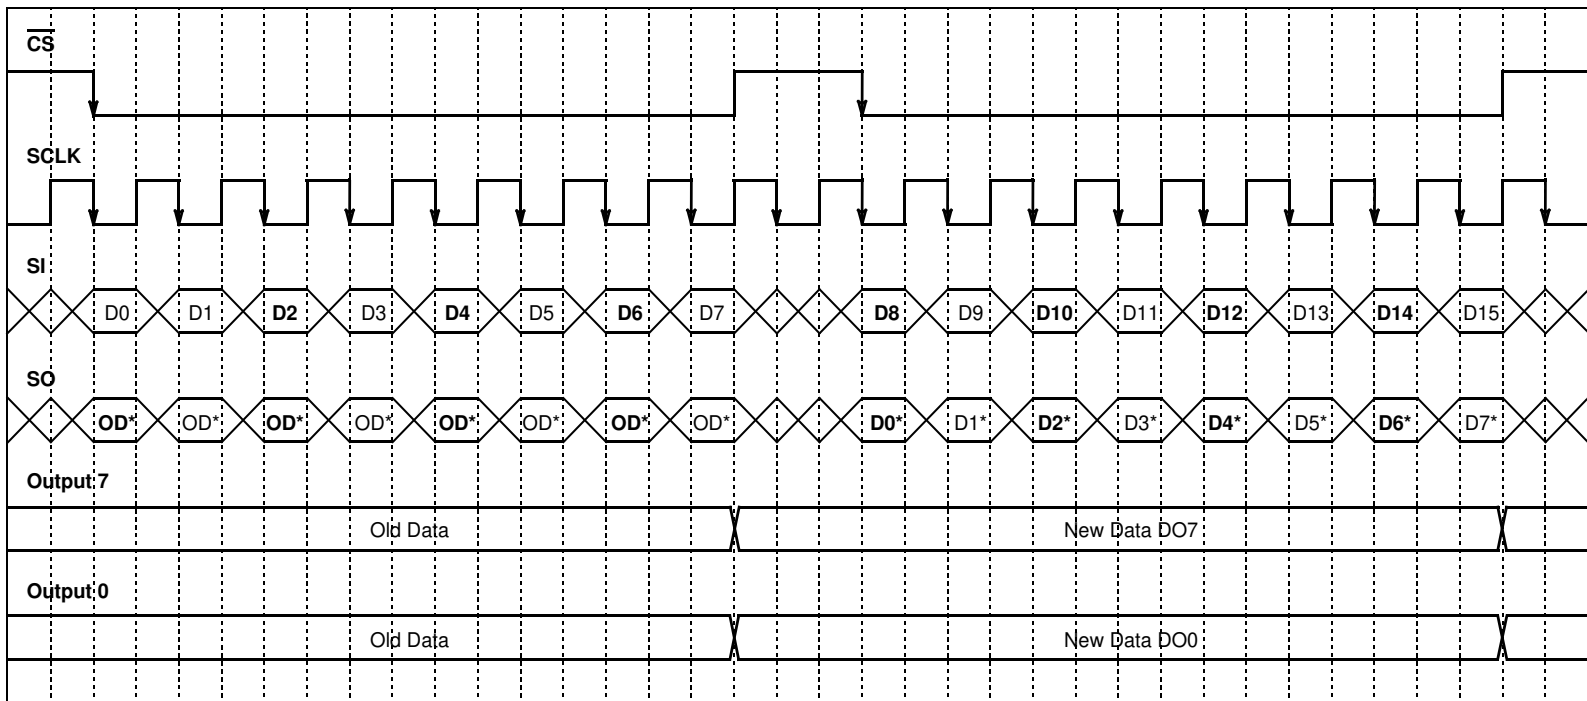

Figure 17. Data Transfer Timing
absolutely necessary, the SCLK pin be kept in a low logic state as long as the device is not accessed (\overline{CS} in logic high state). When \overline{CS} is in a logic high state, signals at the SCLK and SI pins are ignored and SO is tri-stated (high impedance). See the Data Transfer Timing diagram in Figure 17, page 16.
To program the eight outputs of the 33291L ON or OFF, an 8-bit serial stream of data is required to be synchronously entered into the SI pin starting with Output 7, followed by Output 6, Output 5, and so on, to Output 0. Referring to Figure 17, the DO bit is the most significant bit (MSB) corresponding to Output 7. For each rise of the SCLK signal, with \overline{CS} held in a logic low state, a data-bit instruction (ON or OFF) is synchronously loaded into the Shift register per the data-bit SI state. The Shift register is full after eight bits of information have been entered. To preserve data integrity, care should be taken to not transition SI as SCLK transitions from a low-to-high logic state.
The serial output (SO) pin is the tri-stateable output from the Shift register. The SO pin remains in a high impedance state until the \overline{CS} pin goes to a logic low state. The SO data reports the drain status, either high or low relative to the previous command word. The SO pin changes state on the rising edge of SCLK and reads out on the falling edge of SCLK. When an output is OFF and not faulted, the corresponding SO data-bit is a high state. When an output is ON, and there is no fault, the corresponding data-bit on the SO pin will be a low logic state. The SI/SO shifting of data follows a first-in-first-out (FIFO) protocol with both input and output words transferring the MSB first. Referring to Figure 17, the DO bit is the MSB corresponding to Output 7 relative to the previous command word. The SO pin is not affected by the status of the \overline{RST} pin.
The MCU can perform a parity check of the fault logic operation by comparing the command 8-bit word to the status 8 bit word. Assume after system reset, the MCU first sends an 8 bit command word to the 33291L. This word is called Command Word 1. Each output to be turned ON will have its corresponding data bit low. Refer to the data transfer timing illustration in Figure 17.
As Command Word 1 is being written into the Shift register of the 33291L, a status word is being simultaneously written and received by the MCU. However, the word being received by the MCU is the status of the previous write word to the 33291L, Status Word 0. If the command word of the MCU is written a second time (Command Word 2 = Command Word 1), the word received by the MCU, Status Word 2, is the status of Command Word 1. The timing diagram illustrated in Figure 17 depicts this operation. Status Word 2 is then compared with Command Word 1. The MCU will Exclusive OR Status Word 2 with Command Word 1 to determine if the two words are identical. If the two words are identical, no faults exist. The timing between the two write words must be greater than 100 μ s to receive proper drain status. The system data bus integrity may be tested by writing two like words to the 33291L within a few microseconds of each other.